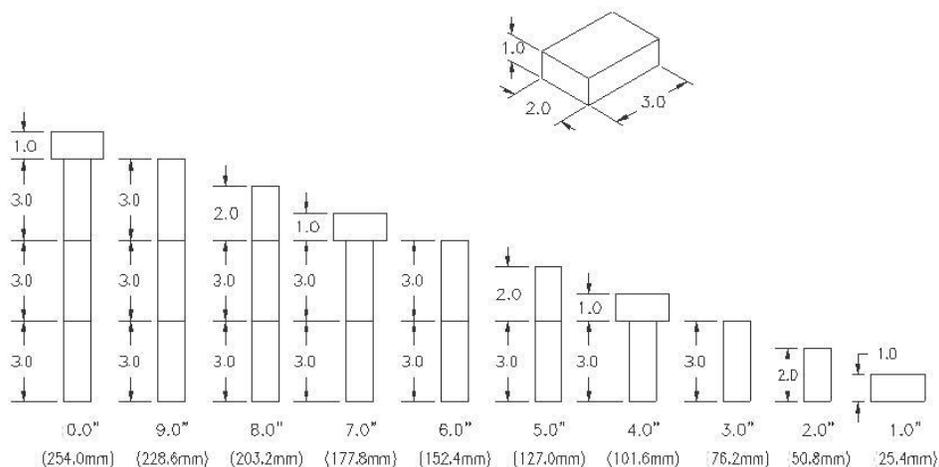

Figure 6.5: Gage Block Orientation
- Be sure the 150mm ram foot and 150mm mold top are installed and the surfaces are clean. Place the gage blocks into the compaction chamber oriented for 10.000 inches (Figure 6.5).
- Repeat the verification procedure for 9 through 0 inch (no blocks) heights. Reference Figure 6.5 for proper gage block orientation.
- Open the compaction chamber door, be sure of the ram foot and mold top surfaces are clean. Place the gage blocks on the ram foot oriented for 6.000 inch. (Figure 6.5)